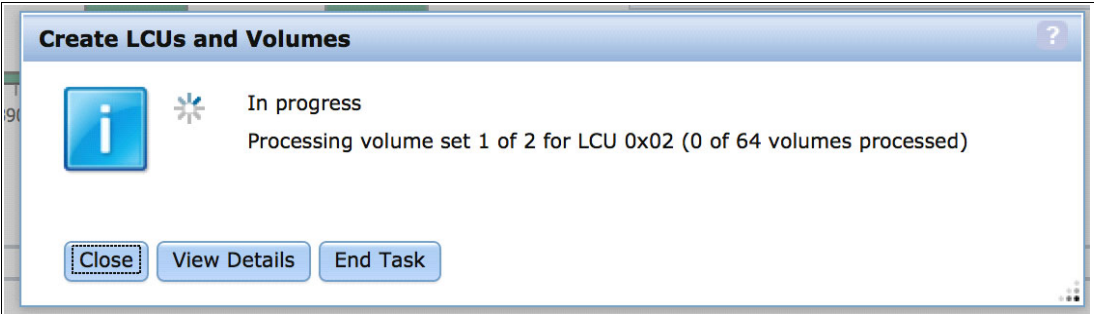

Figure 6-24 Creation in progress
14. We select **Create All**. The GUI system creates the LCUs in increasing LCU ID order, All LCUs, and their volumes at the same time, as shown in Figure 6-24.